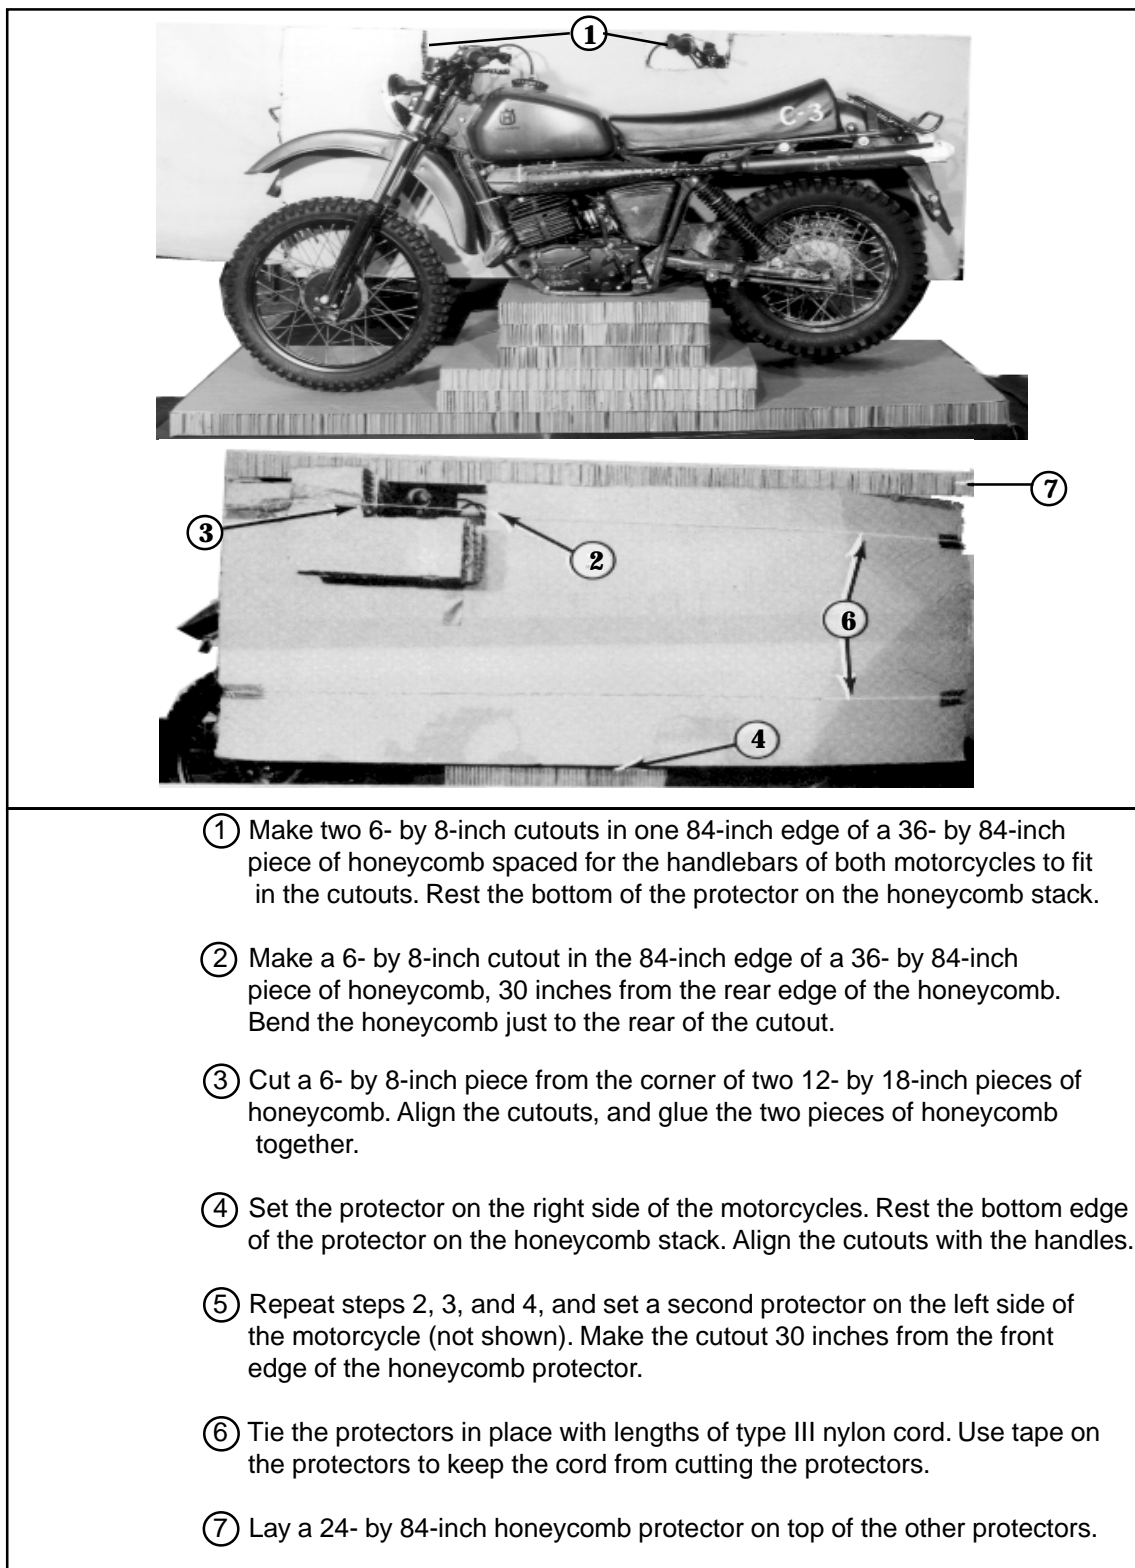

Figure 3-6. Honeycomb Protectors Prepared and Tied to Motorcycles
- Tie honeycomb protectors to the motorcycles as shown in Figure 3-6.